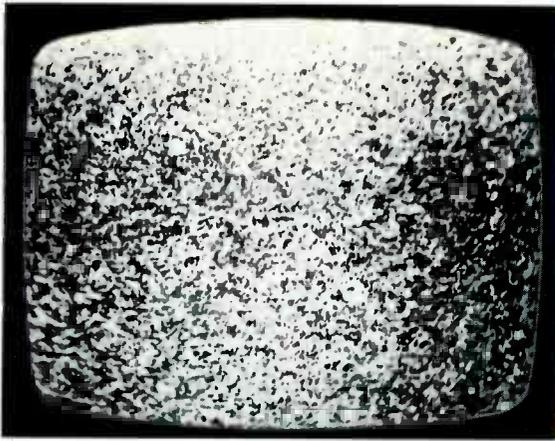

Fig. 4 High-contrast snow on vacant channel is result of excessive gain, and almost always is caused by receiver defect.
3. Excessive gain. If the AGC system does not provide sufficient bias, the gain of the receiver will increase. Excessive contrast and poor sync are the usual results. High-contrast snow on vacant channels (Fig. 4) also is to be expected. This set of symptoms is caused almost always by the receiver.